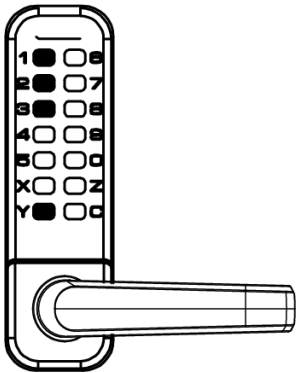
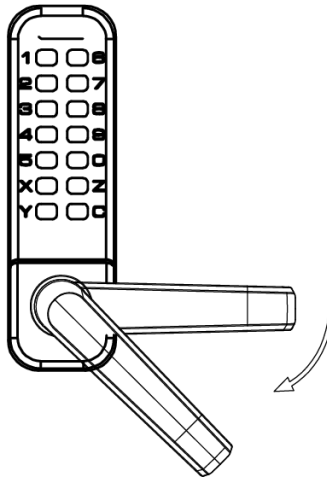

FIG1A
FIG1B
2) **Set new password:** Hold down the Y key without letting go, then enter the new password (password cannot be repeated), as shown in Figure 1A. Then release the Y key and rotate the knob once, as shown in Figure 1B, and the new password will be successfully set. After successfully setting the new password, please remember and keep a record of it.